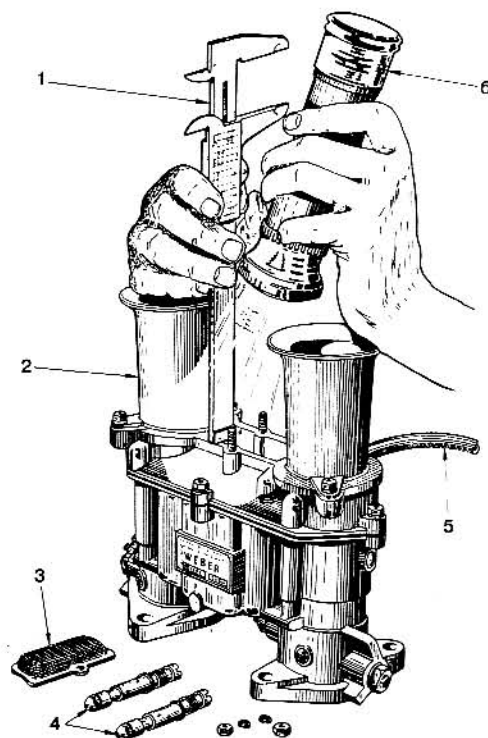

FIG. 45
b) Inside the well, after having removed the air jet and emulsion tube, by a Vernier caliper **1** and flash-light **6**, as shown in **Fig. 45**.
### 15) Flared air horn extensions - Fig. 45